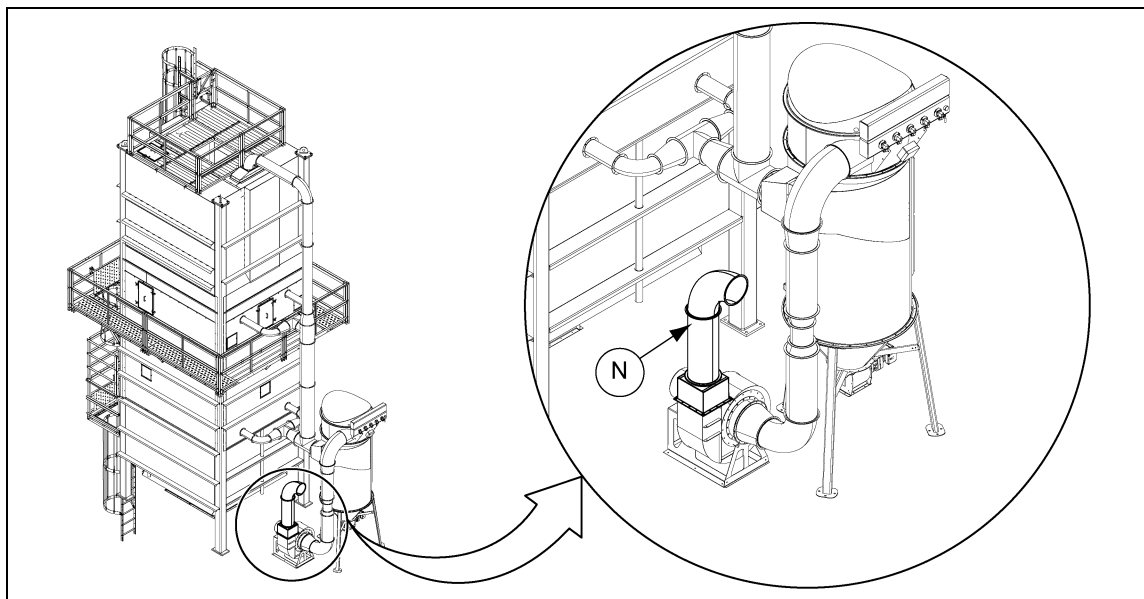

Figure 2Q
6. Attach any fan outlet duct (N). (See Figure 2Q.)
7. Anchor the fan (M) and filter when in their final positions.